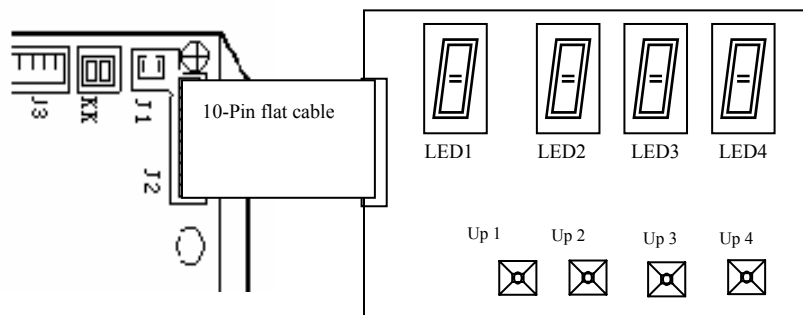

Fig.1 The connection sketch of Wireless transmission module and Freq-set device
Freq-Set Device is especially designed to set channel and Tx/Rx frequency for FC-301/C. The shape is shown in Fig 1. It has four digital LED, named LED1, LED2, LED3 and LED4 from the pin socket. LED1 indicates the No. of channel which is controlled by key 1. LED 2, LED 3, LED 4 compose the corresponding Freq-set values (001-999) for the Rx or Tx frequency, Which is respectively controlled by Key 2-4. The method of setting frequency is described as the following:
3. Connect the FC-301/C module with freq-set device by 10-pin flat cable as fig.1.